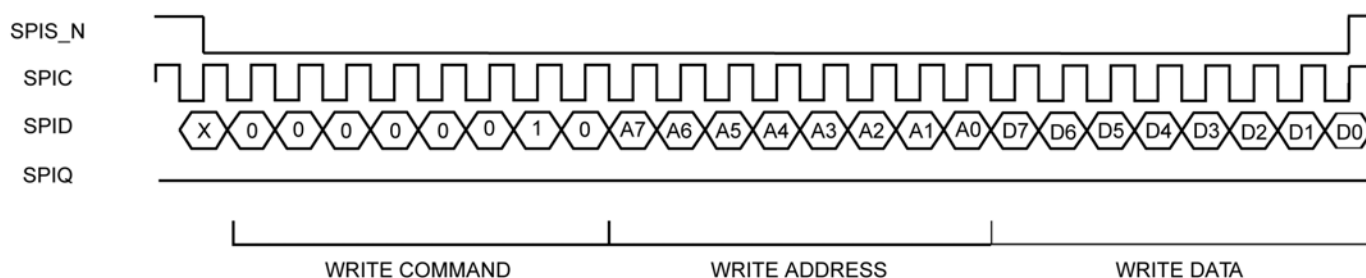
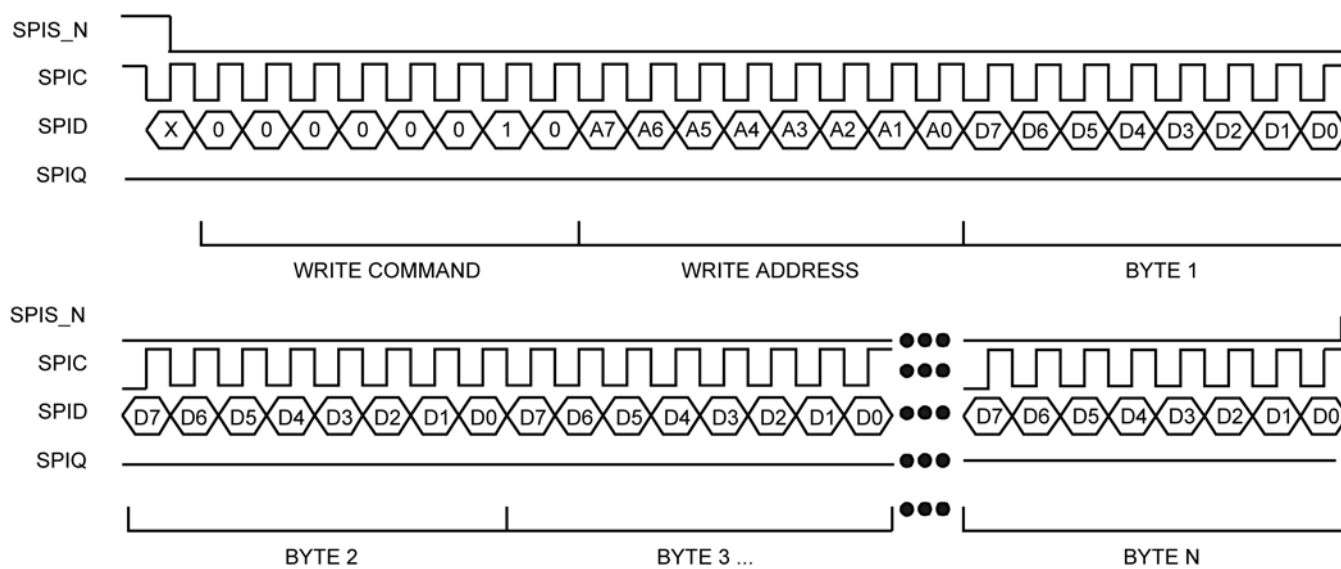

Figure 9. SPI Write Data Cycle
Figure 11. SPI Multiple Write
4. Write configuration to registers using a typical SPI write data cycle as shown in Figure 9 or SPI multiple write as shown in Figure 11. Note that data input on SPID is registered on the rising edge of SPIQ.